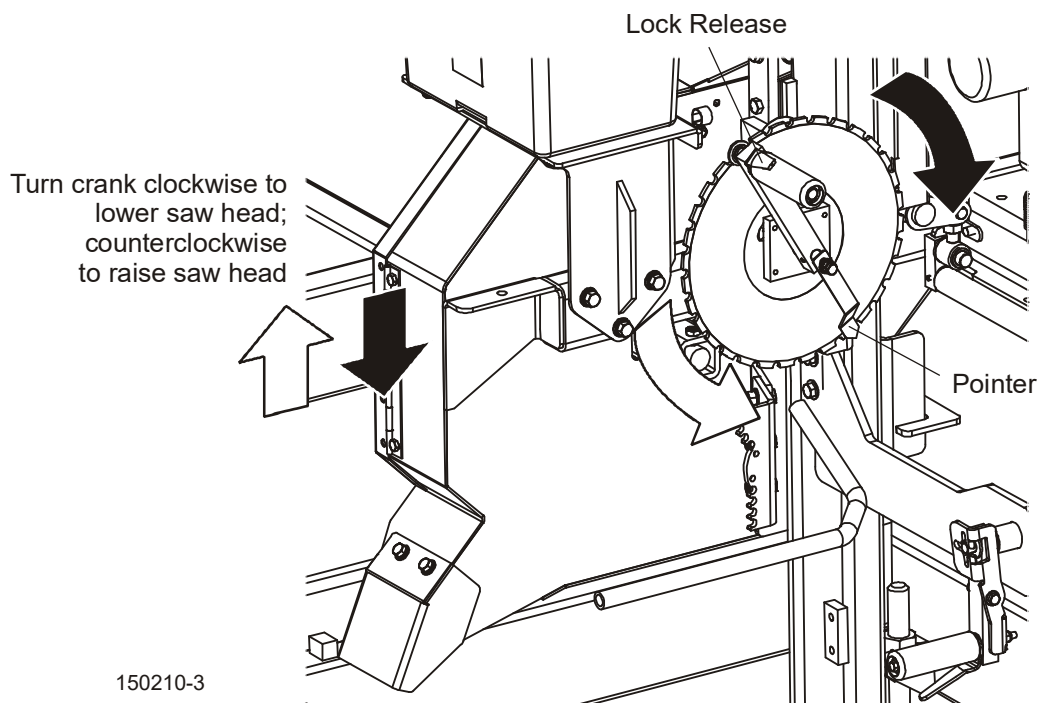

FIG. 6-14
10. Engage the lock pin at the end of the sawmill to secure the carriage. See FIG. 6-14.